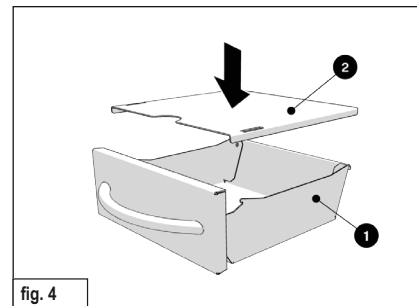

fig. 4
- ▶ Place the lid (❷) on the ash container (❶) (fig. 4).